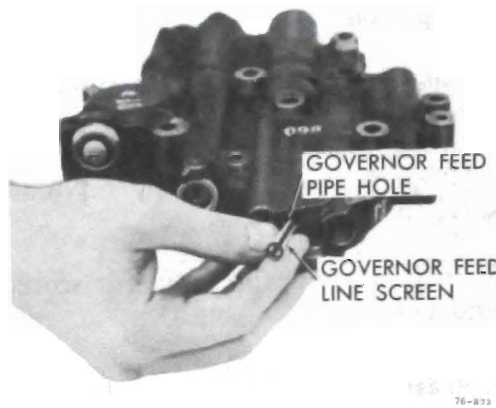

Figure 76-611
14. From the Governor feed hole remove the screen assembly. See Figure 76-611.
21. Install governor oil screen assembly into governor oil feed hole, pinched end first. See Figure 76-611.